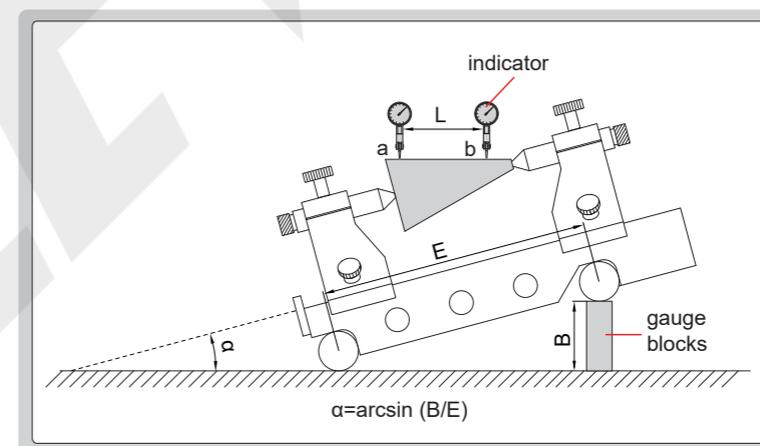

Figure 1
- As shown in Fig. 1, select two measurement points, a and b, on the tapered rod (points should be located 3~5 mm from each end). Record the distance L between these points. Position the indicator point on the generatrix of the tapered rod and apply preload. Move the indicator to record readings a_1 and b_1 at points a and b respectively. The angular error of the tapered rod is calculated as: $[(a_1 - b_1) / L] \times 2 \times 10^5$ (").